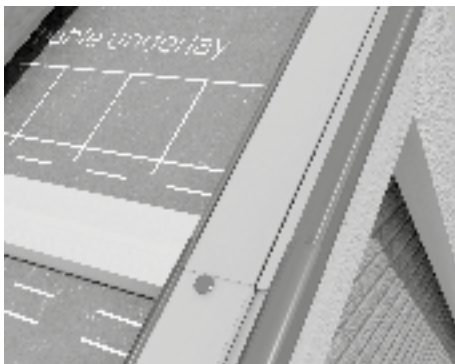

Fig. 23
- 8 Ensure the two down legs line up. Firmly push into place and nail into position (Fig. 23). If the upper leg is to form part of a ridge joint, carry out the apex cutting process prior to nailing to battens.